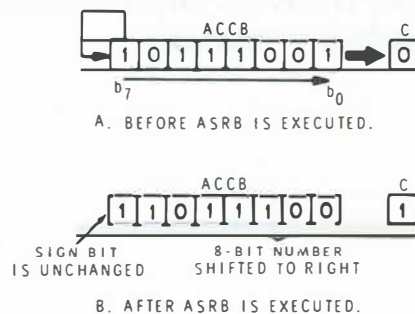

Figure 6-10
When an arithmetic shift-right instruction is executed, the number in the affected register is shifted right one position, and the LSB goes into the (C) register.  $B_1$  shifts to  $B_0$ , etc.  $B_7$  shifts into  $B_6$ . However,  $B_7$  itself remains unchanged. Figure 6-10 illustrates the execution of the ASRB instruction. Notice that there are also ASRA and ASR instructions listed in Figure 6-6. These perform the same type of shift operation but on accumulator A and the selected memory byte respectively.